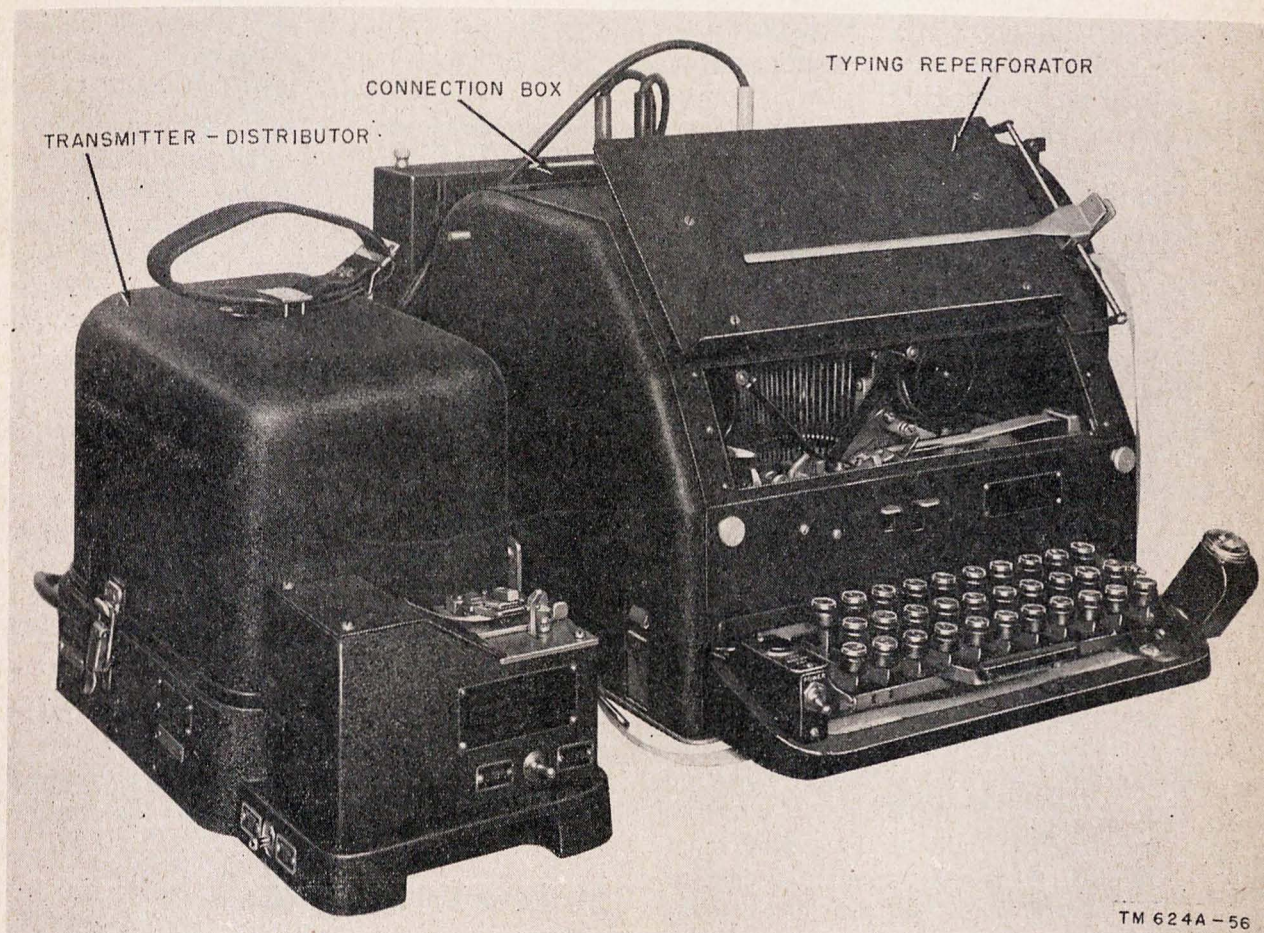

Figure 17. Perforator-Transmitter TT-56/MGC.
e. *Perforator-Transmitter TT-56/MGC* (fig. 17). This equipment is located on the operating table near the front wall of the shelter (fig. 17). The complete assembly consists of two associated units, a typing reperforator and a transmitter-distributor.
*f. Perforator Connection Box* (fig. 17). This is a rectangular box of sheet-steel construction; it is mounted in back of the perforator transmitter assembly. The connection box supplies power and protective fusing to the motors of the reperforator transmitter and the transmitter-distributor. It also provides connections for dc power, jacks for local operation of the typing reperforator, and jacks for the operation of external telegraph equipment using line units.